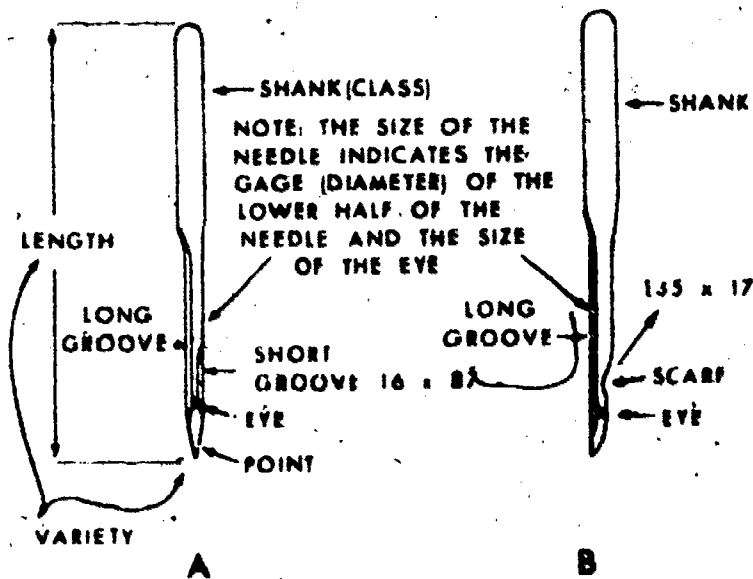

Figure 1. Sewing Machine Needles.
Needles for the various machine classes are selected and ordered by needle number and size. The needle numbers consist of a class number and a variety number separated by an "X"; for example; the class 16X87 variety needles are used in Class 31 Machines. The Class XX (16) describes the shank, figure 1, and the variety number (87) describes the length and type of point
Machine needles have a long groove on one side and either a short groove or a scarf on the opposite side, figure 1. The purpose of the grooves is to allow the thread to fall back into the needle when it enters the material to prevent the thread from breaking or fraying; therefore, it is important that the long groove is placed in the machine properly. Most of the machines require the long groove to the left, but on different class machines, the direction varies with the position of the bobbin assemblies. On Class 31 machines, the long groove is placed to the left.
Needles are sized by the diameter or gage of the needle, figure 1 and the needle eye. The selection of the correct size needle is determined by the size and type of thread and material used. The thread must pass freely through the eye of the needle in order to prevent thread fraying or breaking. The sizes of the 16X87 needles range from size 14 to 23; however, most sewing operations required may be accomplished by using sizes 18 through 22. The needle size number increases with the diameter of the needle; therefore, size 18 needles are used for lighter weight materials than size 22.